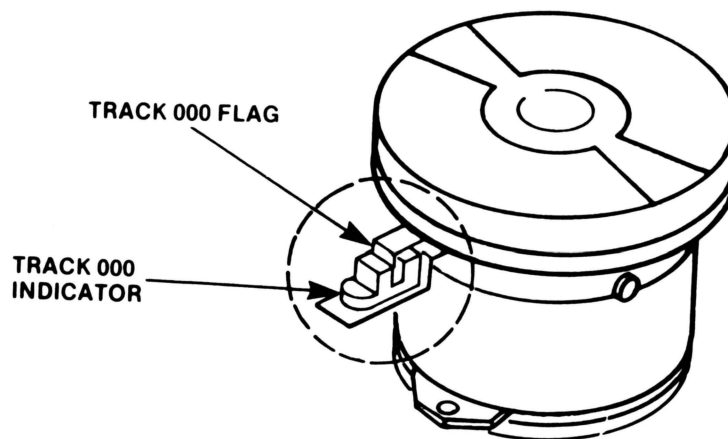

FIGURE 14. TRACK 000 FLAG ALIGNMENT
- C. Position the flag so that it is centered in the Track 000 detector assembly (ref. Fig. 14).
- D. With the drive at track zero, center Track 000 indicator flag in the center of Track 000 detector assembly (ref. Fig. 14).